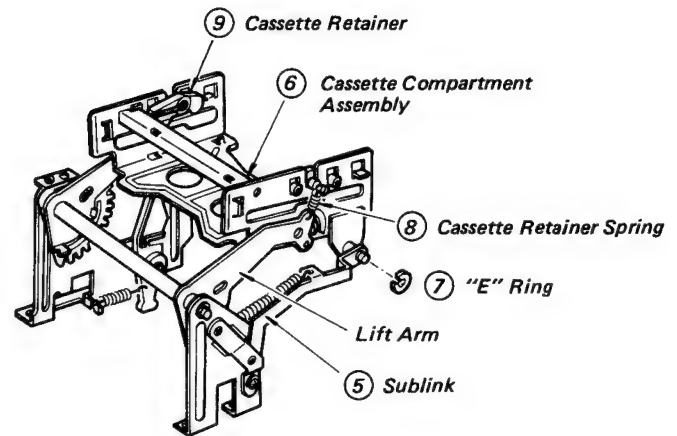
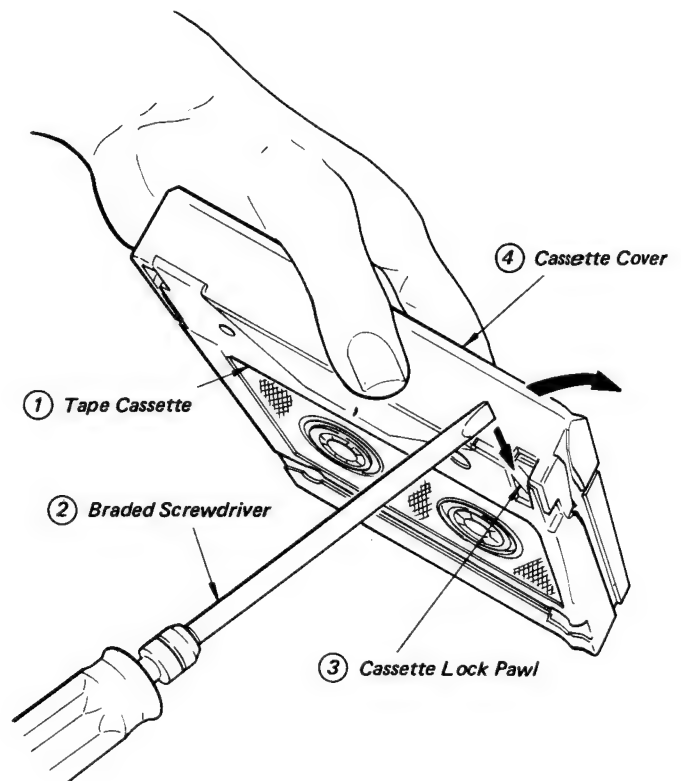

Fig. 5-5 Cassette Compartment Removal
Fig. 5-6 Cassette Lid Opening
## 5. Operating without Cassette Compartment Assembly (see Figs. 5-5, 5-6)
3. Remove the "E" ring (E-3) (7) and the sublink (5) on each side of the cassette compartment (6). cassette compartment (6). (see Fig. 5-5)
4. Unhook the cassette retainer spring (8) from the cassette retainer (9) on each side of the cassette compartment (6).
5. Take out the cassette compartment (6) for removal.
6. In turn, holding the cassette (1) by your left hand, disengage the cassette lock pawl (3) using a bladed screw driver (2). (see Fig. 5-6)
7. Open the cassette cover (4) in the arrow direction (↗).
8. Leaving the cassette cover (4) open, place the cassette in position on the reel tables and cassette reference post.